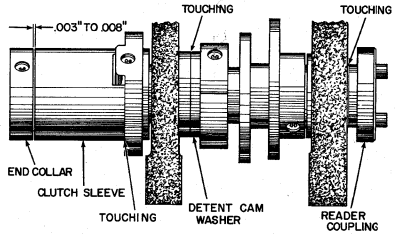

Figure 4
8. With the clutch shaft and the clutch shaft sleeve to the left as far as the parts will allow (Figure 4), and the clutch sleeve against the clutch collar, loosen the setscrews on the end collar, set it .003" to .008" from the clutch sleeve (tight against the clutch collar) and tighten the setscrews.